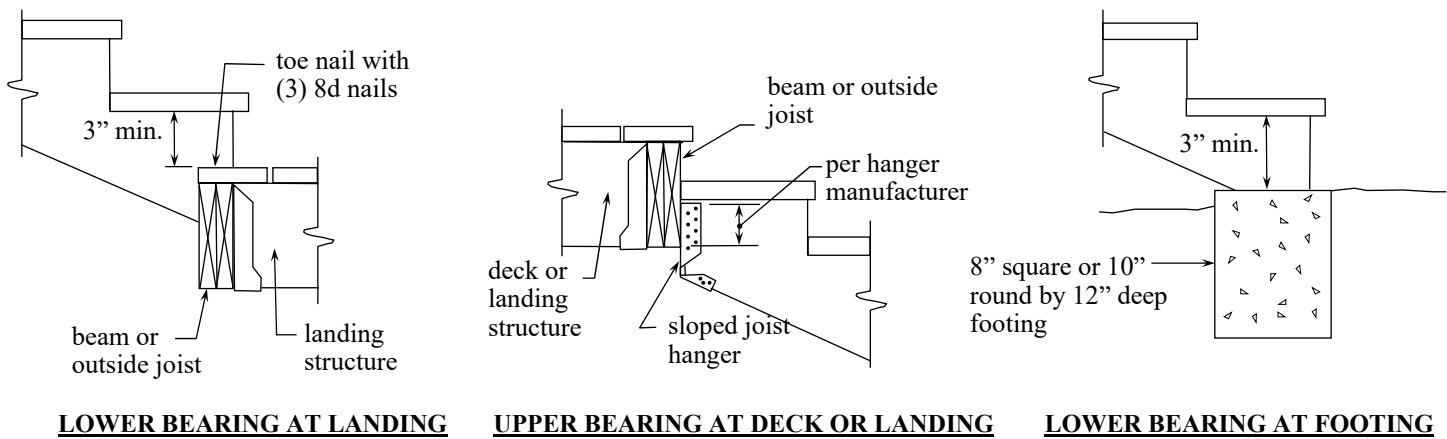

Figure 38: Stringer Bearing
- Stringers shall bear on footings and attach to the deck or landing per FIGURE 38.